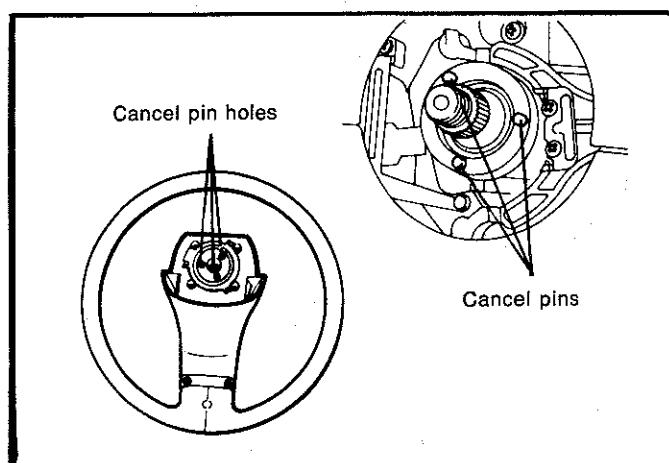

Fig. 26—Installing the steering wheel
(6) Attach the lower dust cover to the body applying sealer to the attaching bolts.
(7) Install the column switch (if removed), lay wiring harness along the centre of the column tube allowing clearance to all adjacent parts and secure with retaining clips.
(8) Connect the steering column wiring harness to the main wiring loom.
(9) Install the column cover.
(10) Set the front wheels in the straight ahead position, insert the steering wheel onto the shaft, fit the three cancel pins of the column switch into the holes in the steering wheel. If it is necessary to align the cancel pins and the steering wheel holes insert a screwdriver through the steering wheel and position the cancel pins, fig. 26.